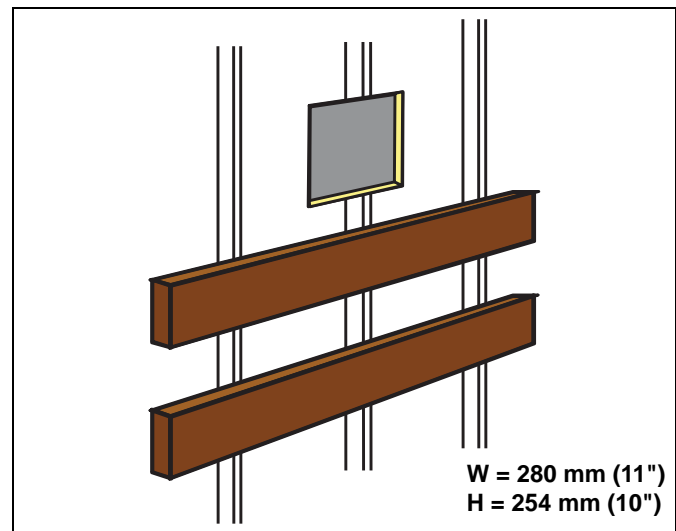

Figure 3D 250K BTU Model
5. If additional support is needed, add support by fastening two 2' x 4' boards on the outside of the wall where heater support brackets are to be positioned. The two 2' x 4' boards are to be fastened to studs inside the wall. (See Figure 3D.)